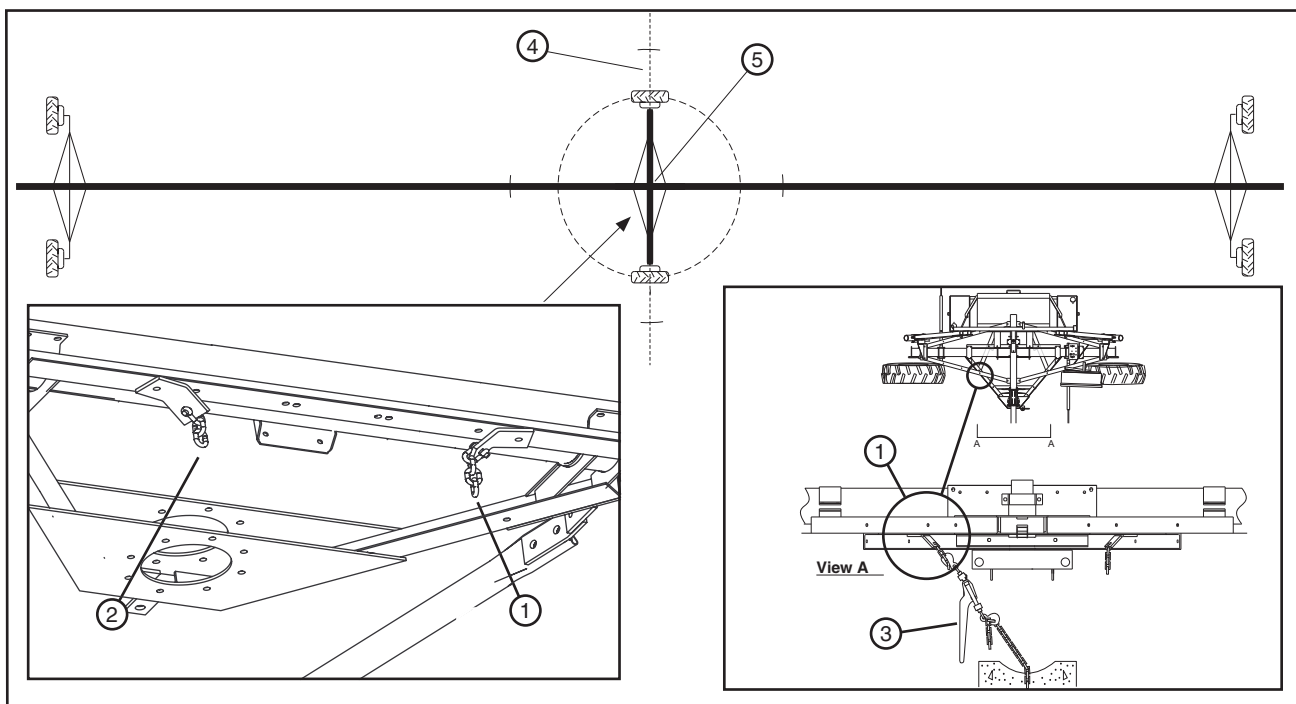

Figure 78-3 Concrete Anchor Method.
6. When the machine is started it will pivot around the center of the base beam. See figures 78-3